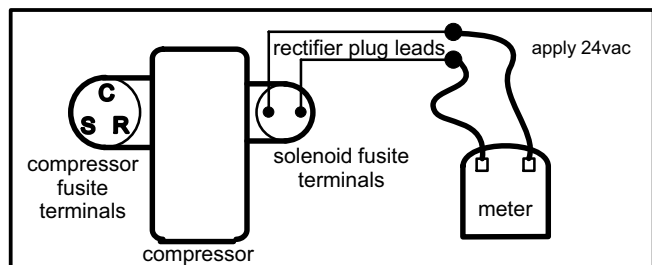

FIGURE 6
- 12 - Supply 24 volts AC control voltage to the wire ends of the full wave rectifier plug. Listen for a "click" as the solenoid is energized. See figure 6.